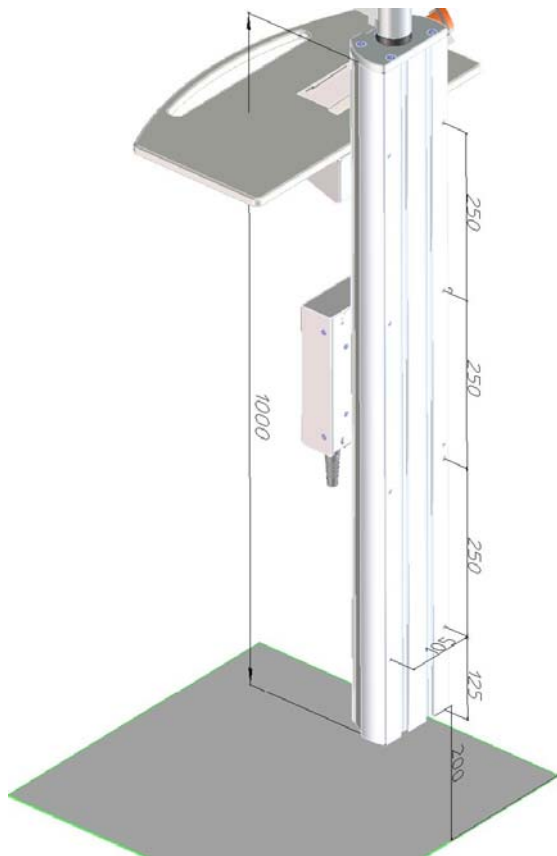

Figure 18: Position of the pairs of drill holes on the support rail rail on the wall
b) For attaching the support rail, there are four pairs of holes in the support rail with spacings between the holes in each pair of 105 mm. The first pair is located 125 mm below the upper end of the rail and the interval between the pairs of holes is 250 mm (figure 18). The locations for drilling can now be marked on the wall.